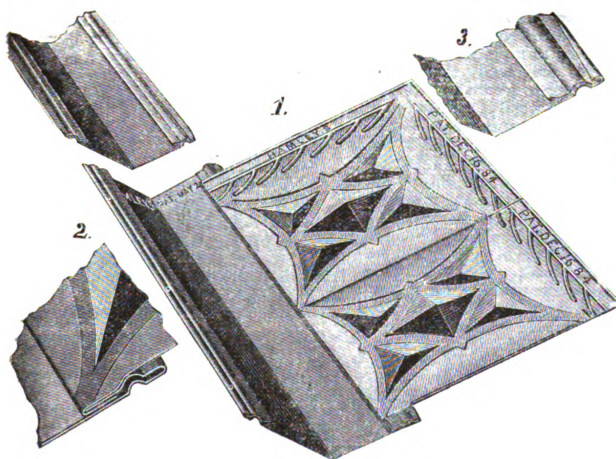

Fig. 8.—Hamsley's Metal Valley.
out a patent metal shingle possessing many interesting features. As to the construction of these shingles, it may be stated that they are stamped up out of a single piece of metal, with an embossing in the opposite sides have an edge ¼ inch wide turned at right angles. This construction is claimed by the manufacturers to produce a strong and substantial shingle that cannot be turned up after once in position even by the severest storm. In Fig. 8 is shown a general view of the Hamsley Metal Valley and the method of connecting the shingles therewith (1). An engraving of an enlarged section of the bending edge of the valley is presented (2), and shows the lower end of a shingle interlocked therewith. The